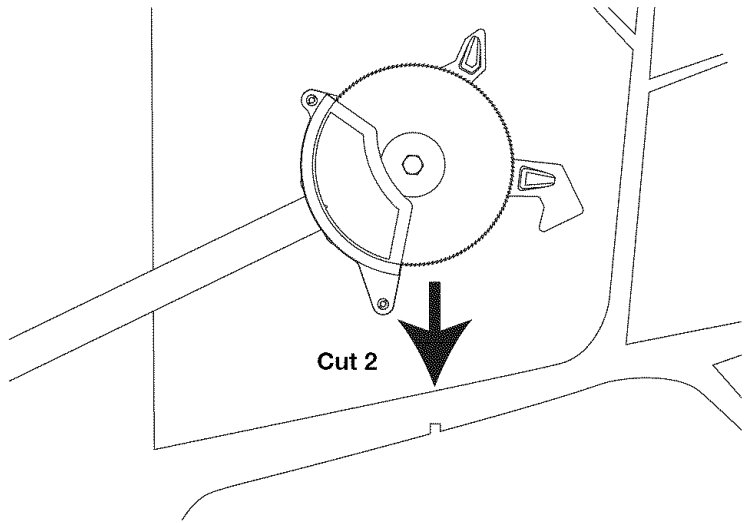

Fig. 8
2. Using the bottom edge of the blade (Fig. 8), align the blade with Cut 1, lower the pruner until the blade contacts the branch, and cut through the branch in one slow, steady motion (Cut 2).